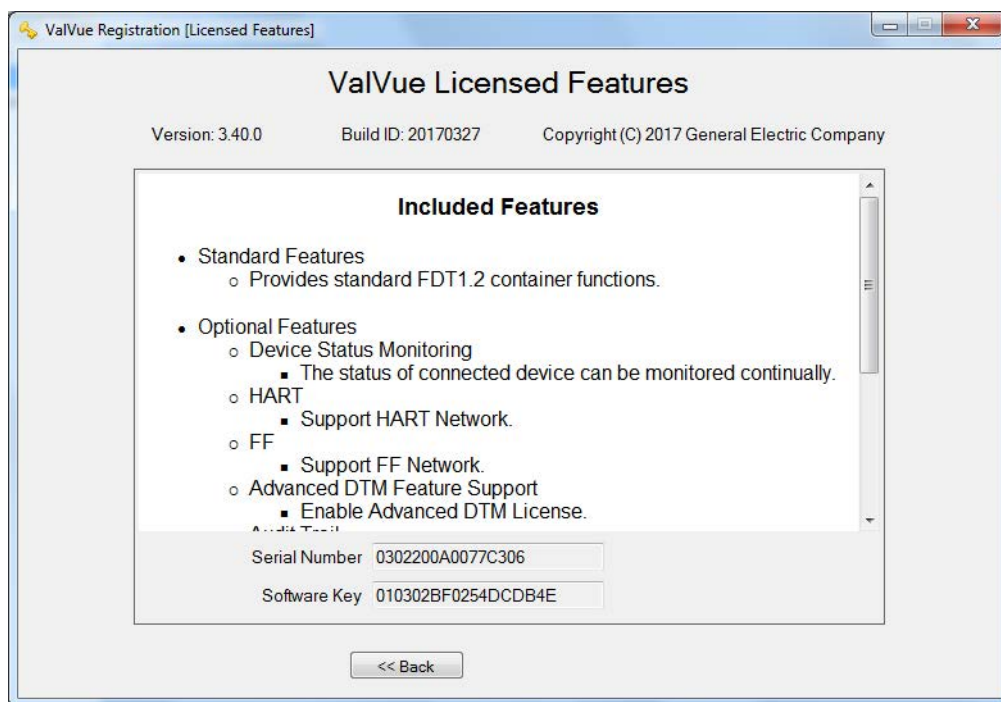

Figure 45 - Included Features
1. Select **Tools > ValVue Licensing** and Figure 45 appears.